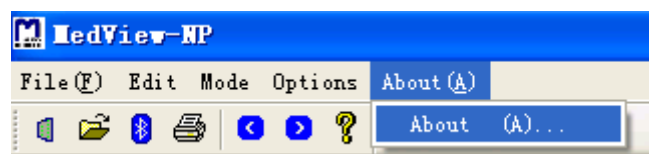

Figure10-1
Click “About(A)” icon in the interface as shown in Figure 10-1, then click “About (A)” item in the drop-down menu. The information about the software is shown.